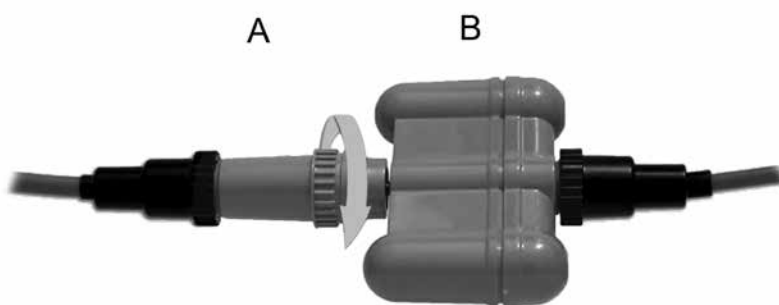

Figure S1
The Floating Swivel is designed to prevent cable twisting and tangling by providing a free spinning power cord that is able to rotate 360° in both directions, while maintaining electrical continuity. The Floating Swivel will float on the surface of the water as the cleaner moves around the pool. As tension builds in the cable, the outer cylindrical section of the Floating Swivel will keep the float stable allowing the front section of the Floating Swivel to rotate, releasing the power cord tension that has been generated by the cleaner's movement (See Figure S1).
The short power cord from cleaner to the Floating Swivel, 2.4m will need to be connected to the small end of the Floating Swivel (A). The long power cord from the Admiral ATV to the power supply, 15m will need to be connected to the large end of the Floating Swivel (B) as seen in Figure S1.